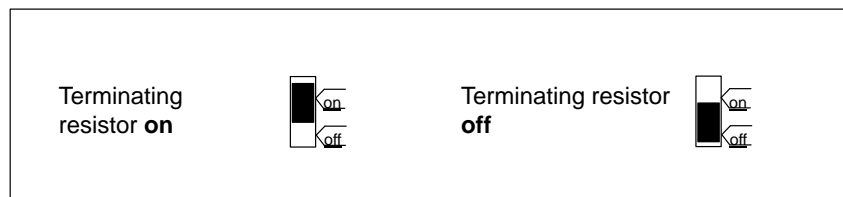

Figure 3-14 Bus Connector (6ES7 ...): Terminating Resistor Activated and Deactivated
3. If the bus connector with the order number 6ES7 ... is located at the start or end of a segment, you must activate the terminating resistor (switch setting "ON") (see Figure 3-14).